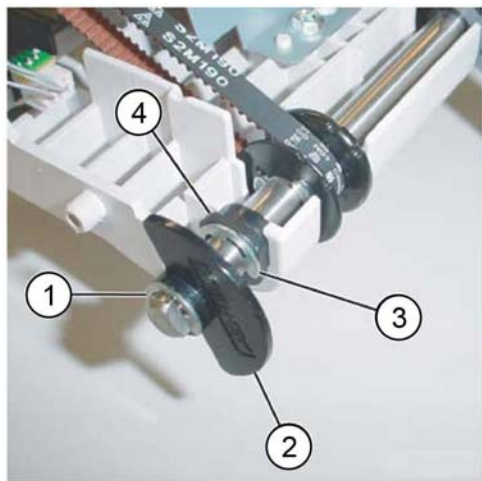

Figure 1 Actuator and bearing removal
3. Remove the actuator and the bearing, Figure 1:
- a. Remove the E-clip (1).
- b. Remove the actuator (2).
- c. Remove E-clip (3).
- d. Remove the bearing (4).